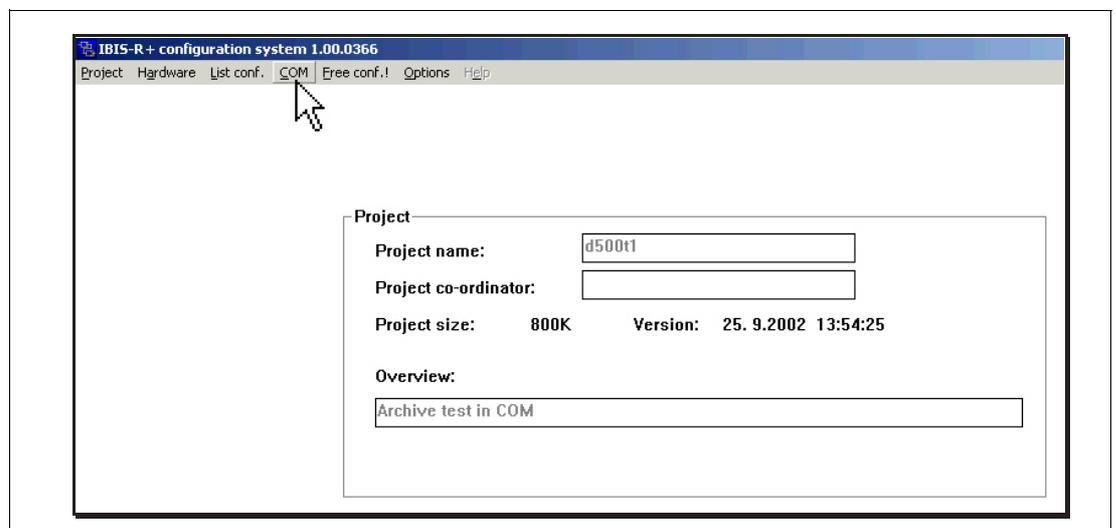

Fig. 2-1
- 1 With → **COM** you will get into the **Commissioning modus**, s. Fig. 2-1.